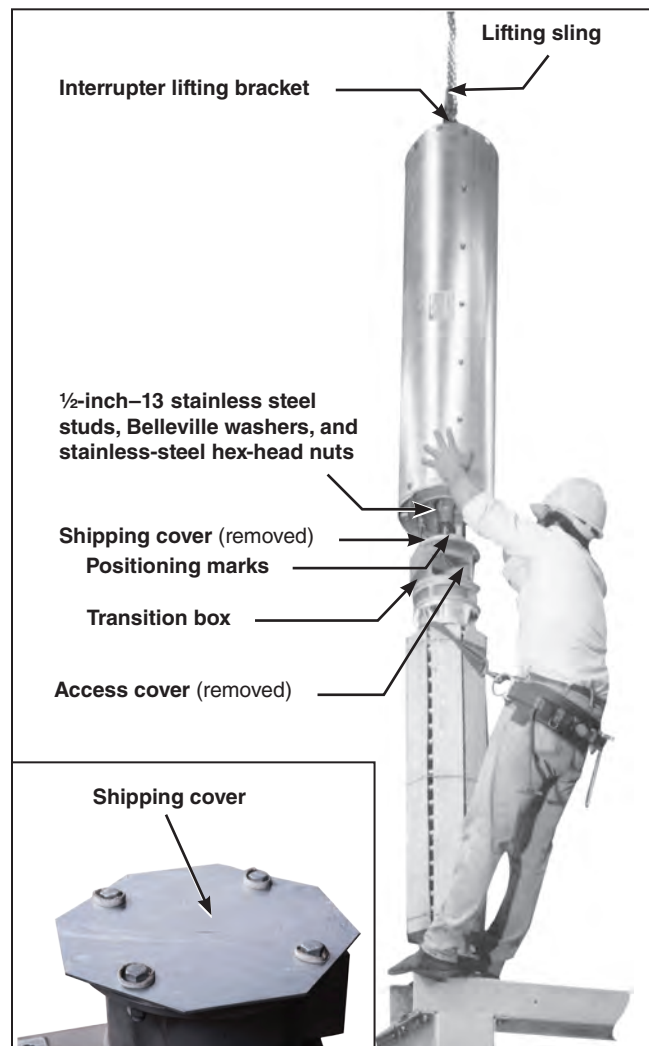

Figure 11. Lift the interrupter over the insulating support column.
STEP 9. Attach a lifting sling to the lifting bracket on one of the interrupters. See Figure 11. Remove and discard the clamps and associated $\frac{1}{2}$ -inch galvanized steel hardware that fasten the interrupter shipping bracket to the high-speed base. See Figure 12 on page 15. Carefully lift the interrupter somewhat higher than the top of the transition box of its associated insulating support column. Remove the four $\frac{1}{2}$ -13 stainless steel hex nuts and Belleville washers used to attach the interrupter shipping bracket to the threaded studs on the interrupter. Discard the shipping bracket, but retain the Belleville washers and nuts for re-use in Step 11(e).
- Remove and discard the shipping cover on top of the transition box. See Figure 11 on page 14, inset.
- Remove the four $\frac{5}{16}$ -18 \times $\frac{3}{4}$ hex-head stainless-steel cap screws used to attach the access cover to the side of the transition box. Remove the cover and place it and the hardware on a clean surface. See Figure 11 on page 14. Also remove the cloth bag containing the hardware that will be used for connecting the interrupter coupling to the operating rod link in Step 11(f).